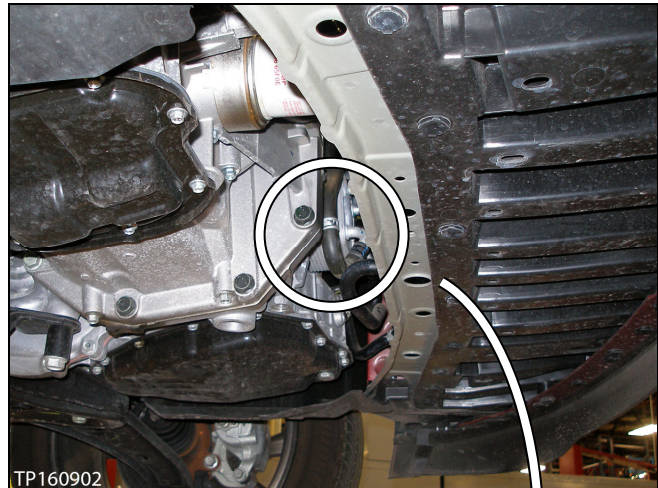

Figure 1a
3. Unclamp, and then remove the water hose from the CVT oil warmer (see Figure 1a and 2a).